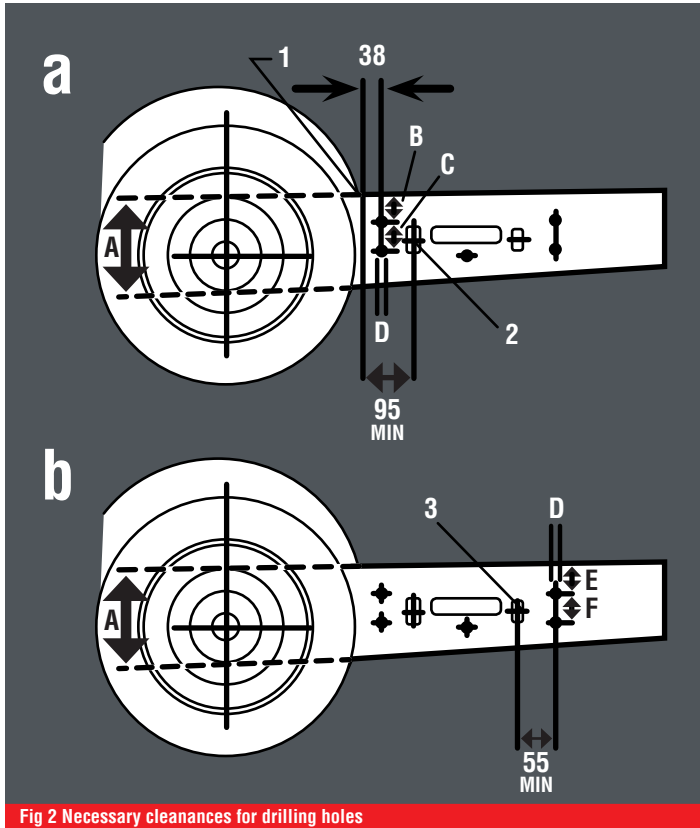

Fig 2 Necessary clearances for drilling holes
## Position a (Fig 2/a)
If the criteria for 4a & 4b can be met then the holes should be drilled in position a, as illustrated at the top of Fig 2.
- 4a The clearance from the rear of the wheel arch (Fig 2/item 1) to the centre of the spare wheel carrier mounting hole (Fig 2/item 2) must be a minimum of 95 mm.
## Position b (Fig 2/b)
If 4a & 4b **cannot** be met, the jack mounting brackets must be fit behind the spare wheel carrier, in holes drilled in position b, as illustrated at the bottom of Fig 2. Note the minimum clearance of 55 mm from the centre of the spare wheel carrier mounting hole (Fig 2/item 3) to the centre of the hole for retro-fit set.
The jack brackets are only suitable for fitment in either of the locations as shown in Fig 2 on page 5.